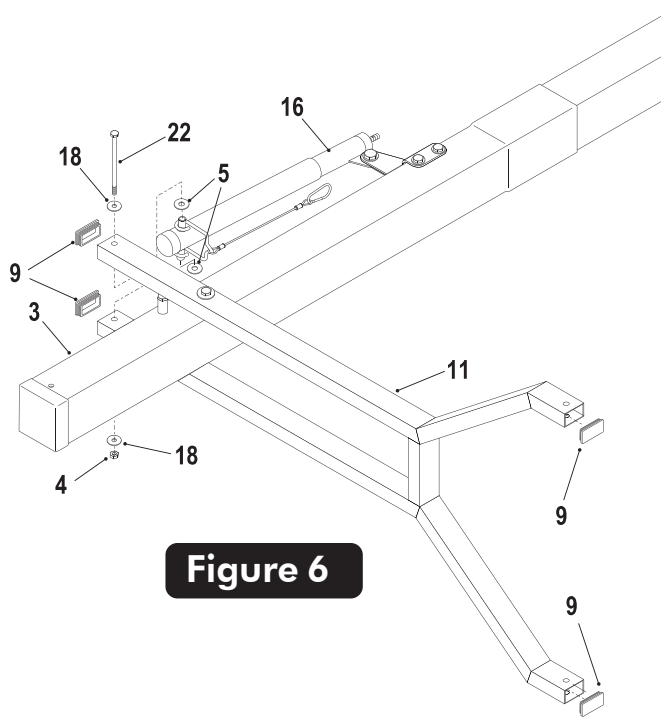

Figure 6
9. Secure Actuator (#16) to Lower Arms (#11) using one bolt (#22), two flatwashers (#18), two plastic washers (#5) and one lock nut (#4). See Figure 6. Tighten both bolts (#22) securing Lower Arm (#11).